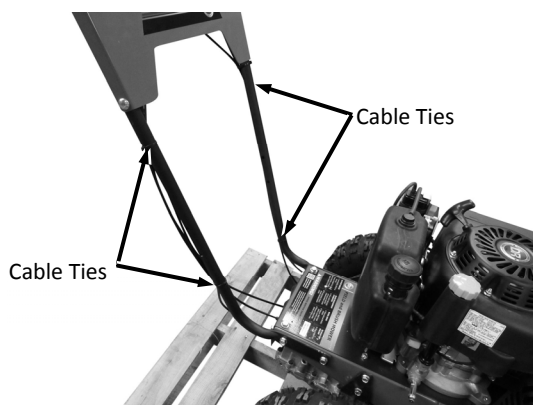

Figure 5
4. Secure the Cables to the Handlebars with the Cable Ties (Figure 5). Cut off the excess from the Cable Ties using the Wire Cutters.